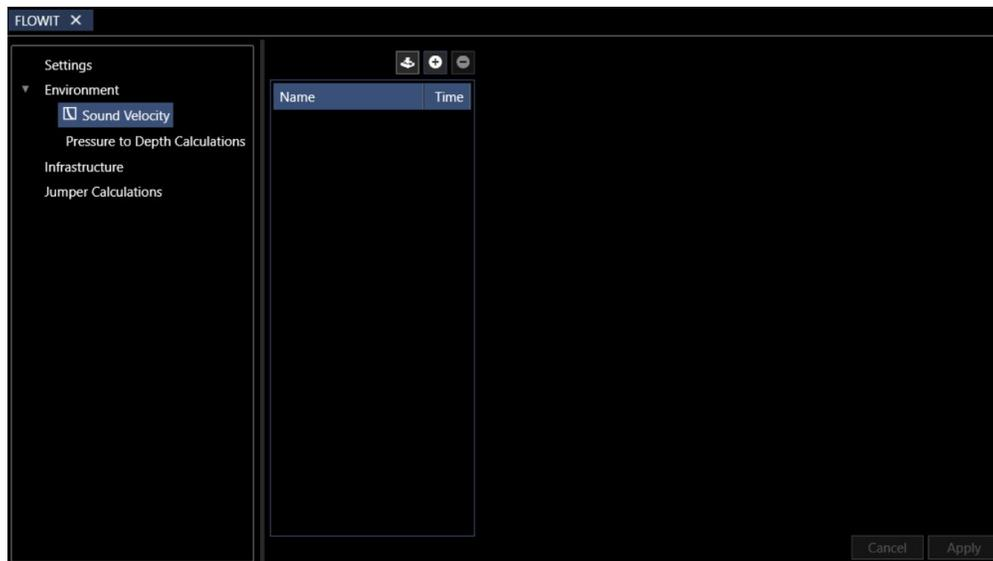

FIGURE 4 – SOUND VELOCITY MANAGEMENT
1. Select Environment->Sound Velocity to display the Sound Velocity management view, see Figure 4.